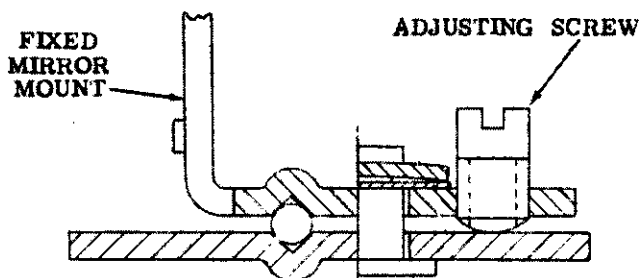

Figure 5. DOUBLE IMAGE ADJUSTMENT
c. To set rangefinder infinity, sight the rangefinder on a target of 500 feet or more. Move the yoke forward about 1/8 inch and lock the yoke with lever on front right corner. Adjust the moveable mirror shaft by loosening the 3/16 inch hexagonal rangefinder arm screw. Turn the mirror mount while observing the movable image in the fixed mirror. When the images are aligned, tighten the hexhead screw. Adjust double vision by turning the set screw on the fixed mirror mount (figure 5). Observe infinity and readjust if necessary. Remove master cam.